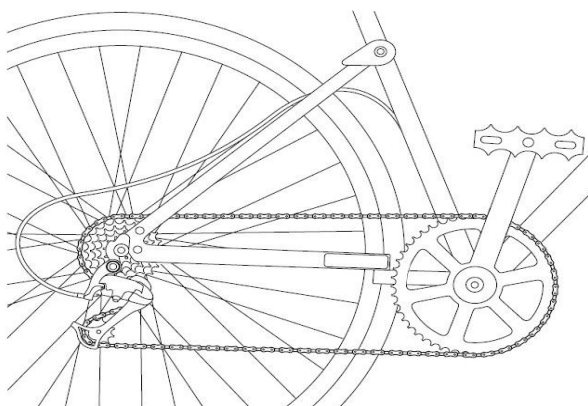

Fig.2
- (e) **Fig.2** shows the chain and sprocket drive used on the rear wheel of the folding bicycle. Several rear sprocket sizes are provided, allowing the rider to change gear whilst riding. The smallest rear sprocket is selected for the maximum speed.